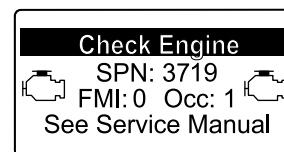

Figure 47
- Engine warning SPN 3719, FMI 0 (Figure 47)